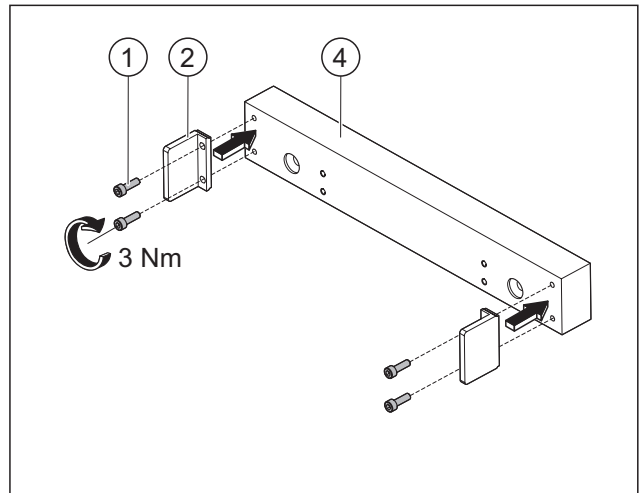

Fig. 9 Attach the end plates
2. Screw the end covers to the screw-on plate (Fig. 9).